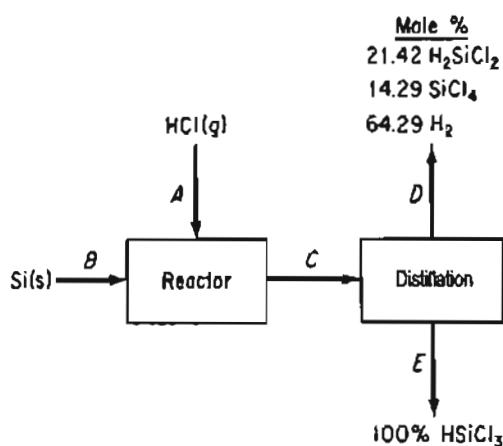

Figure P11.14
- **11.14 Metallurgical-grade silicon is purified to electronic grade for use in the semiconductor industry by chemically separating it from its impurities. The Si metal reacts in varying degrees with hydrogen chloride gas at 300°C to form several polychlorinated silanes. Trichlorosilane is liquid at room temperature and is easily separated by fractional distillation from the other gases. If 100 kg of silicon is reacted as shown in Figure P11.14, how much trichlorosilane is produced?